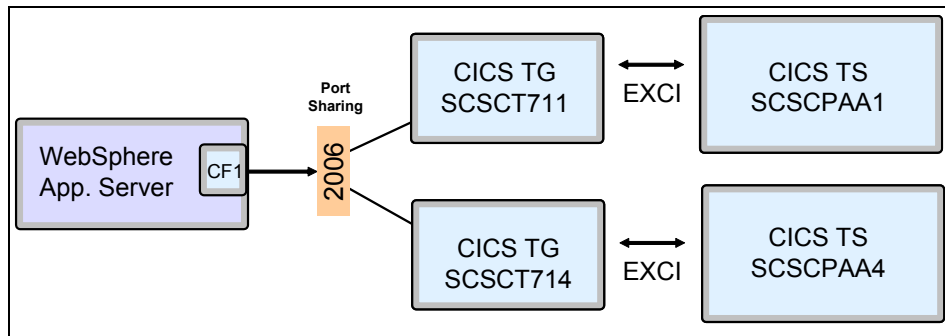

Figure 7-1 XA 1PC configuration
- ▶ From the CICS TG point of view, this one Connection Factory was implemented as two cloned Gateway daemons (SCSCT711 and SCSCT714) listening on a shared TCP/IP port (2006), and each Gateway daemon sent requests to a dedicated CICS region (see Figure 7-1).